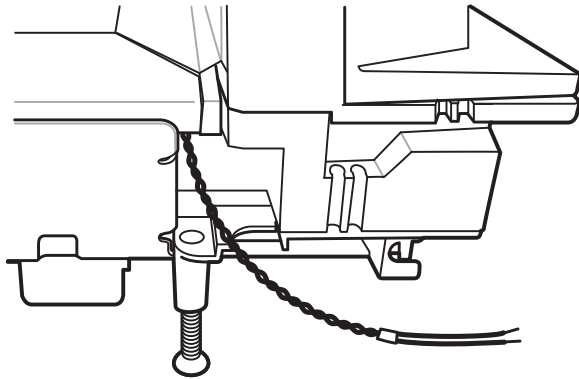

Figure 3-28 Antenna Leads for Checkpoint Controller Connection
- The horizontal Checkpoint antenna should be set into place in the middle housing of the MP70XX, under the platter, and the antenna leads for controller connection should be placed as shown in Figure 3-28. (See page 1-10 for cable routing.)
4. Route the antenna leads, with partly-stripped ends, as pictured in Figure 3-28 hanging several inches below the MP70XX so that the Checkpoint controller lead wires can tie into the antenna.